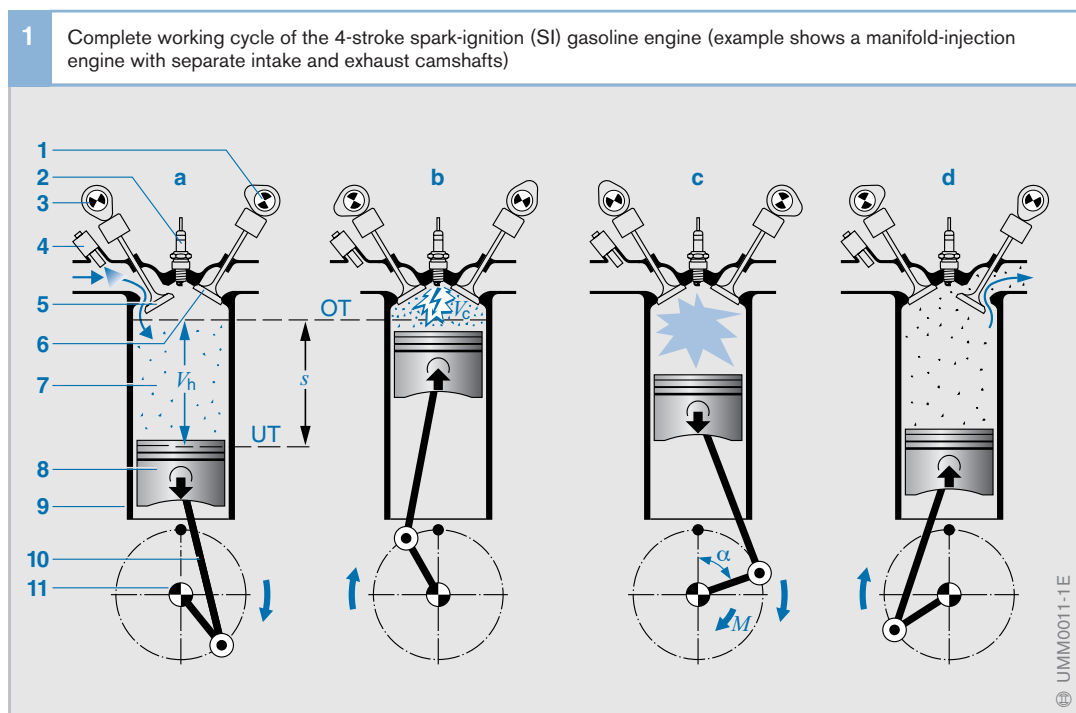

Figure 1
The combustion of the A/F mixture causes the piston (Fig. 1, Pos. 8) to perform a reciprocating movement in the cylinder (9). The name reciprocating-piston engine, or better still reciprocating engine, stems from this principle of functioning.